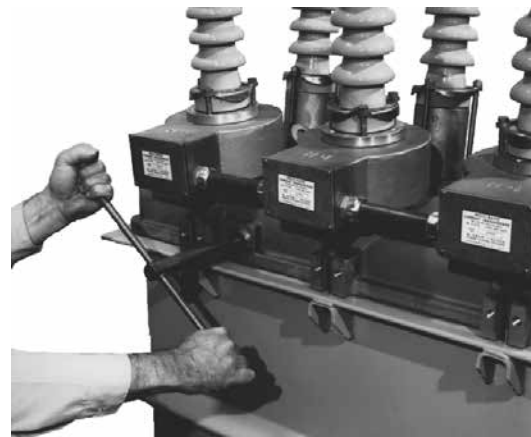

Figure 42. Using a manual closing tool to operate the recloser
2. Insert the tee-handled tool (available as an accessory) into the port, engaging the pin on the closing shaft (Figure 42).